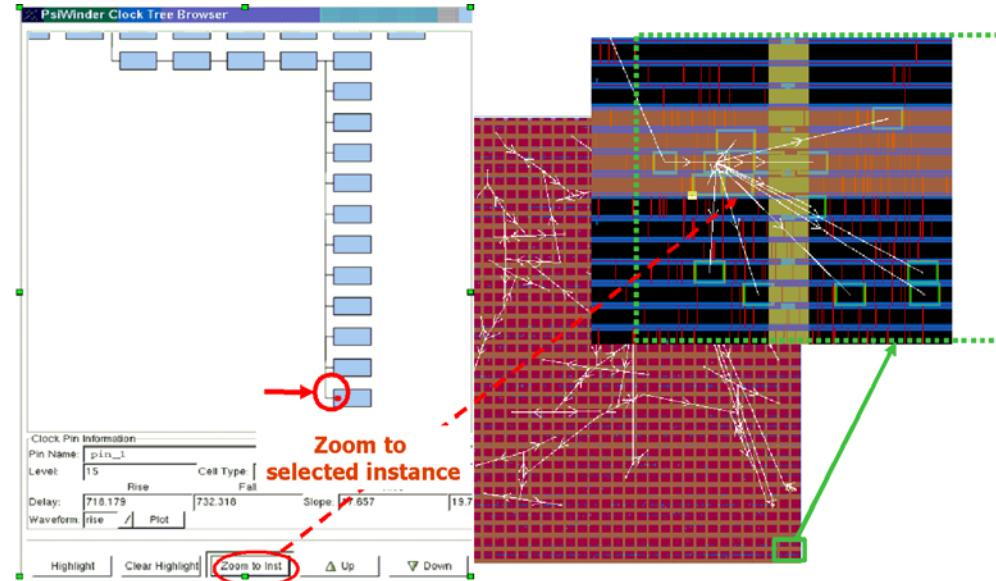

Figure 8-12 Zoom to clock instance
- Zoom to Instance button: highlights and zooms to the selected instance in the GUI layout window. See Figure 8-12.